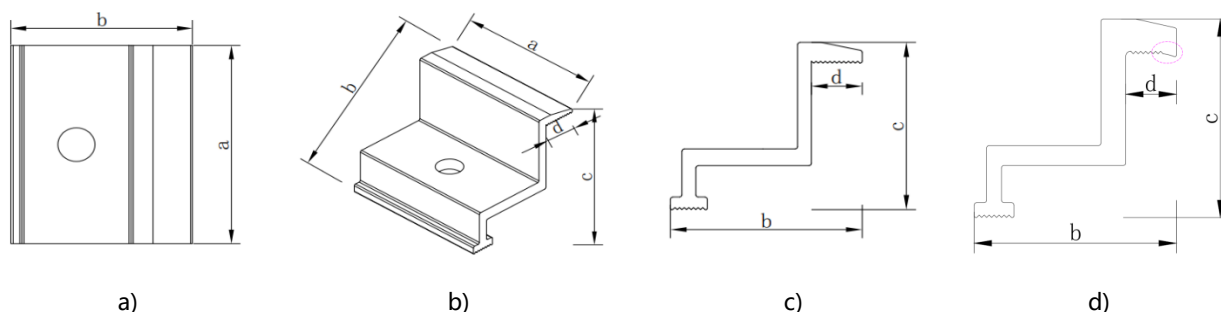

Figure 6 Recommended clamp schematic
The clamps must not be installed in contact with the front glass of the module and must not deform the module frame. Recommended clamp schematic shown as followed (see Figure 6). Ensure that the clamps do not create a shadow on the module. Under no circumstances may the frame be altered. When choosing the mounting method for the clamps, make sure that there are at least four clamps on each module. Different mounting positions of the clamps determine the maximum load capacity of the module. Table 5-7 as followed show the different mounting methods and the positions of the clamps for the different mounting methods. The distance between the installation position of the long-side clamp and the edge is represented by L in Table 5-7. The distance between the installation position of the short-side clamp and the edge is represented by S in Table 5-7.
- Modules with a length greater than 2.2 m and a width greater than 1.3 m are recommended to be mounted with the camber clamps shown in Fig. 6 d), which enables the clamps to fit better with the frame and provide more stable performance under extreme environmental conditions.